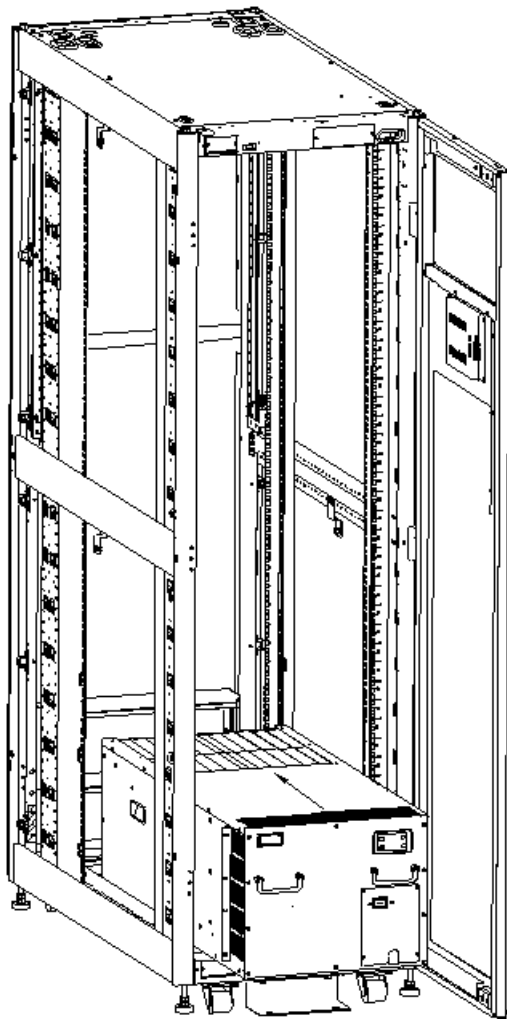

Fig. 3-2 Diagrammatic Sketch of Step 2
2. Push the air conditioner into the cabinet along the guide rail as shown in Fig. 3-2;